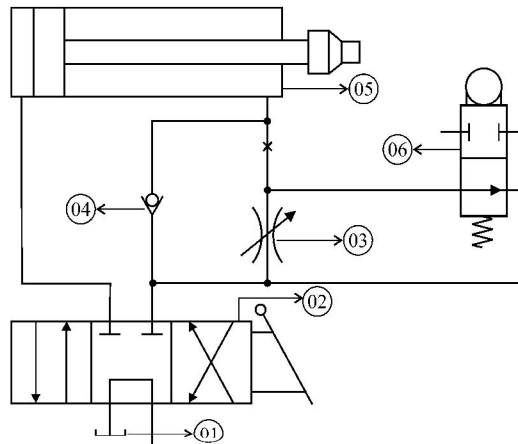

Fig. No. 3
- (c) From a given hydraulic circuit answer the following questions (figure no. 3) :